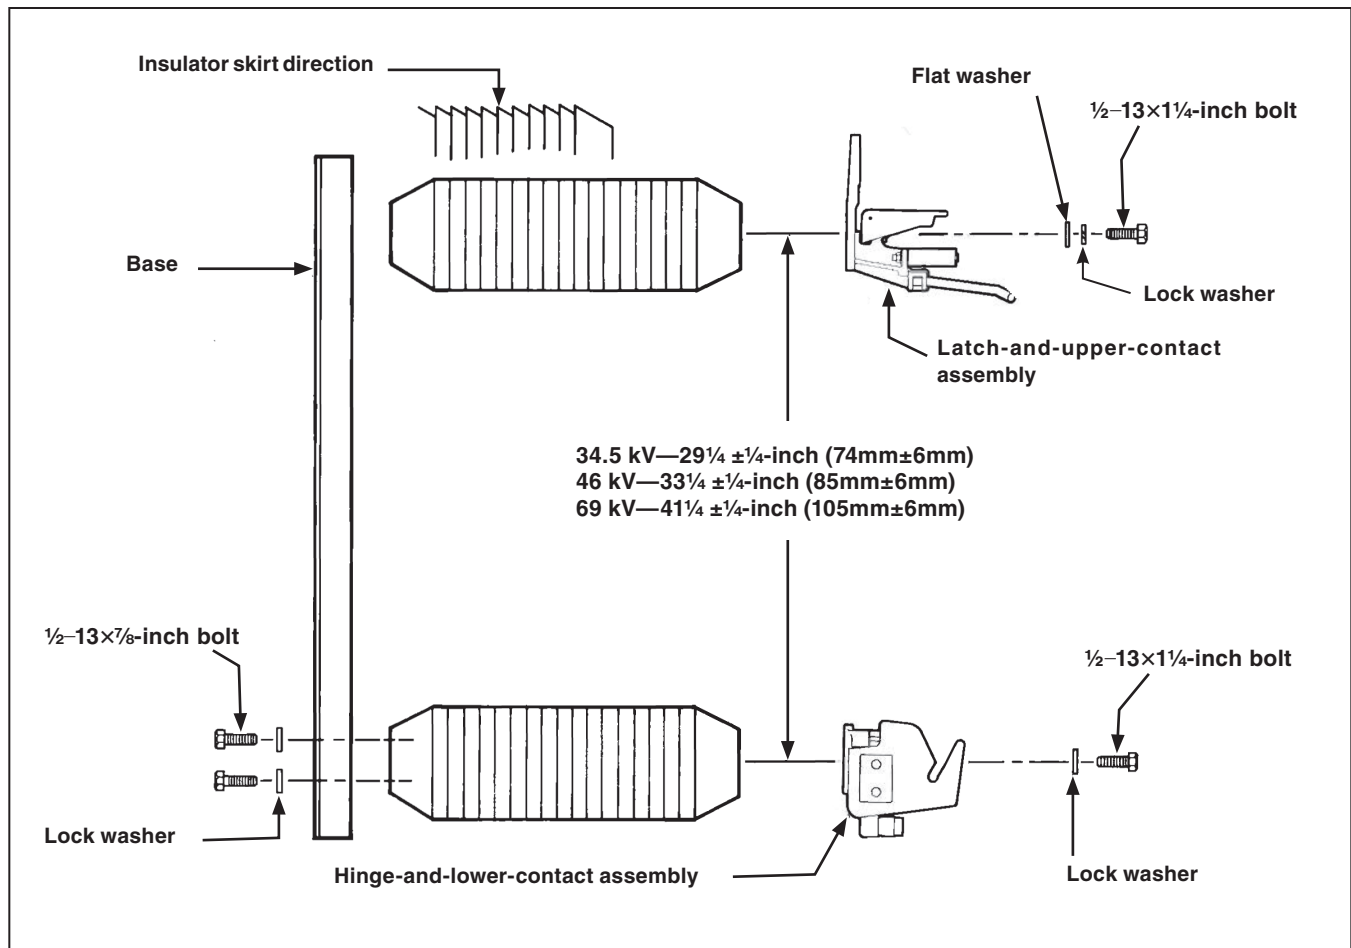

Figure 1. Assembly of mounting, vertical style.
**STEP 1. Vertical Style Mountings:** Attach insulators to the mounting base as indicated in Figure 1 using four  $\frac{1}{2}$ -13 $\times$  $\frac{7}{8}$ -inch galvanized bolts and lock washers with each insulator. Before fully tightening the mounting bolts, adjust the insulators to attain the appropriate spacing as shown in Figure 1. To compensate for minor variations in the insulators, it may be necessary to rotate one or both insulators either 90° or 180° to attain the specified center-to-center dimensions. Shim the insulators if necessary. Fully tighten the mounting bolts.
**STEP 2. Vertical Style Mountings:** Attach the latch-and-upper-contact assembly to one insulator, as shown in Figure 1 on page 6, using two  $\frac{1}{2}$ -13 $\times$  $\frac{1}{4}$ -inch galvanized bolts, lock washers, and flat washers. Then, attach the hinge-and-lower-contact assembly to the other insulator, as shown in Figure 1, using two  $\frac{1}{2}$ -13 $\times$  $\frac{1}{4}$ -inch galvanized bolts and lock washers. Do not fully tighten the mounting bolts at this time.